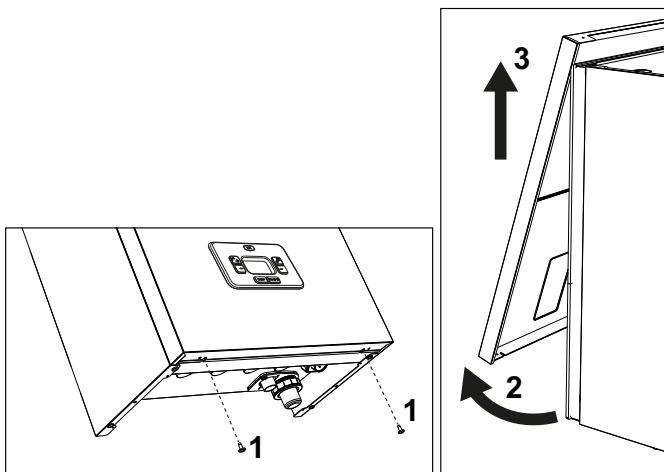

fig. 30- Front panel opening
1. Undo the screws "1" (see fig. 30).